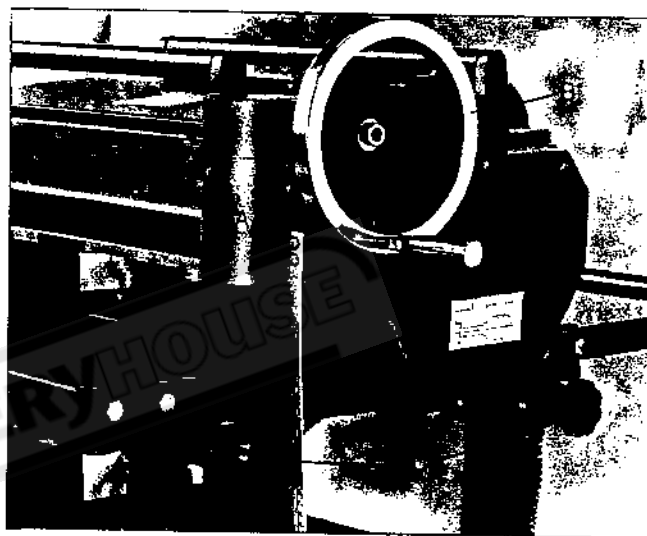

Fig. 18
The cutting depth scale is a combination inch/metric scale as shown in Fig. 18, cutting range from 0 to 8" (204mm). The distance of upward or downward movement is controlled by Handwheel (D) in Fig. 18 for one revolution is 0.059" (1.5mm). Before moving the table upward or downward, loosen the lock nuts (C) as shown in Fig. 18. After choosing the proper position, tighten the lock nuts (C).